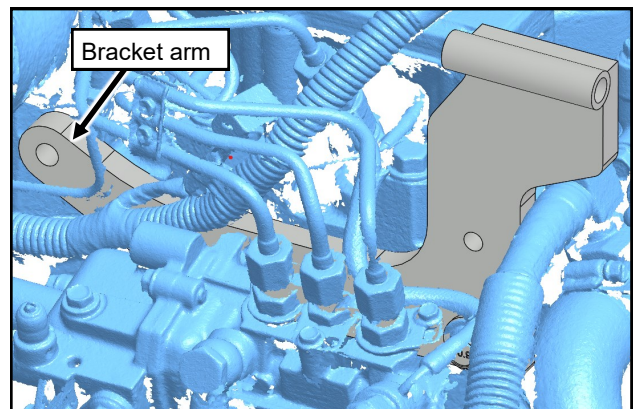

Fig. 1.36 (Snake compressor bracket into place)
**1.36** Snake the compressor bracket arm between the hardlines and the engine and pivot down onto the previously installed screw. See Figure 1.36.